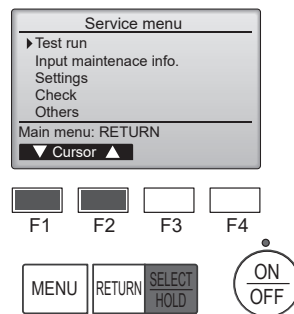

Fig. 7-3
- (3) Select "Test run" with the [F1] or [F2] button, and press the [SELECT/HOLD] button. (Fig. 7-3)